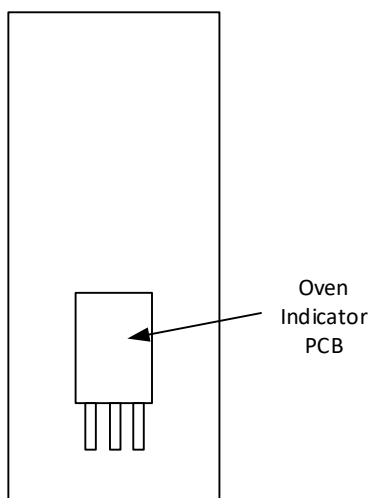

Fig. 8.7. Left Front Door
8.3.2 Left front door components (see Figure 8.7)